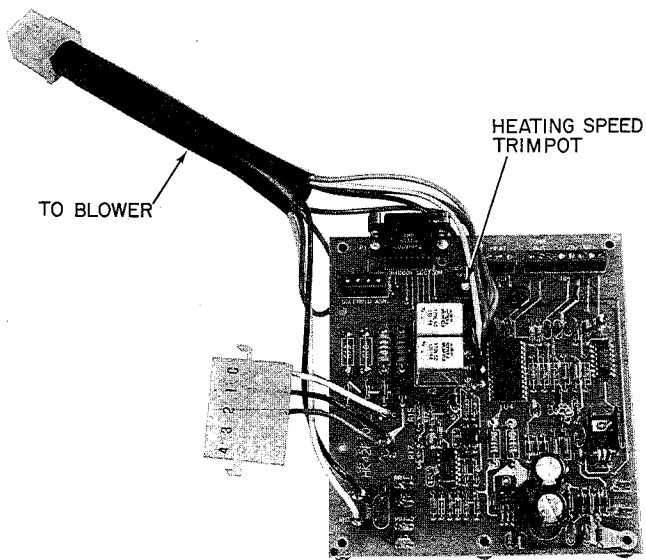

Fig. 8 — Variable Speed Blower Interface Board
3. Adjust temperature rise to midpoint of temperature rise range specified on unit rating plate by adjusting blower speed. To adjust blower speed locate heating speed trimpot in interface circuit board (see Fig. 8). Increase blower speed clockwise to reduce temperature rise. Decrease blower speed counterclockwise to increase temperature rise.